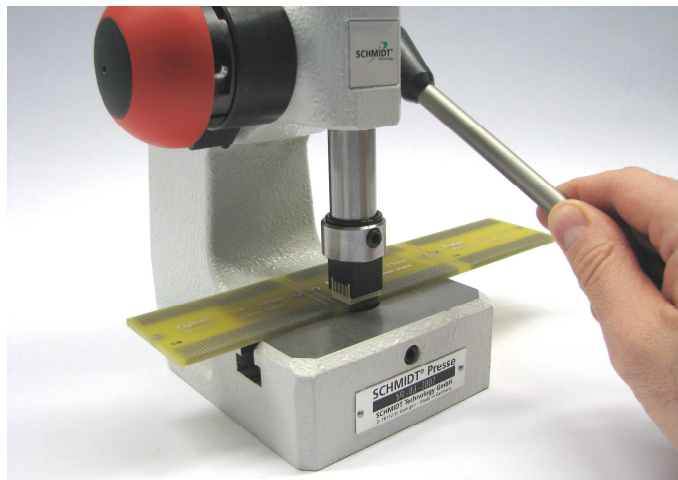

Figure 8
4. In order to press-in the male connector the hand lever needs to be actuated up to the preset stop (see figure 8).